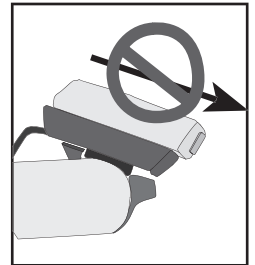

Figure 5- Make sure the computer cannot be bounced off.
9. Check that the computer base cannot be rotated around the handlebar, and that the computer cannot slide backwards on the computer base (Figure 5).